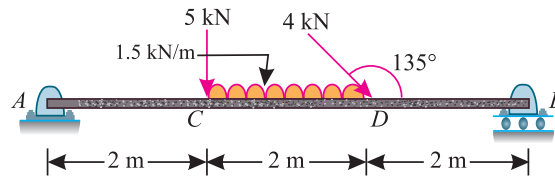

Fig. 12.19.
**Example 12.7.** A beam AB of 6 m span is loaded as shown in Fig. 12.19.